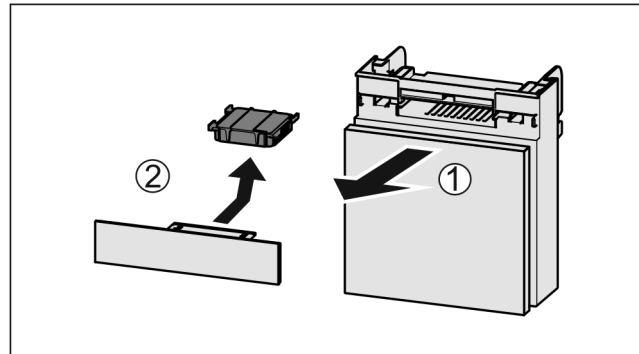

Fig. 51
- ▶ Pull out the compartment Fig. 51 (1).
- ▶ Remove the carbon filter Fig. 51 (2).